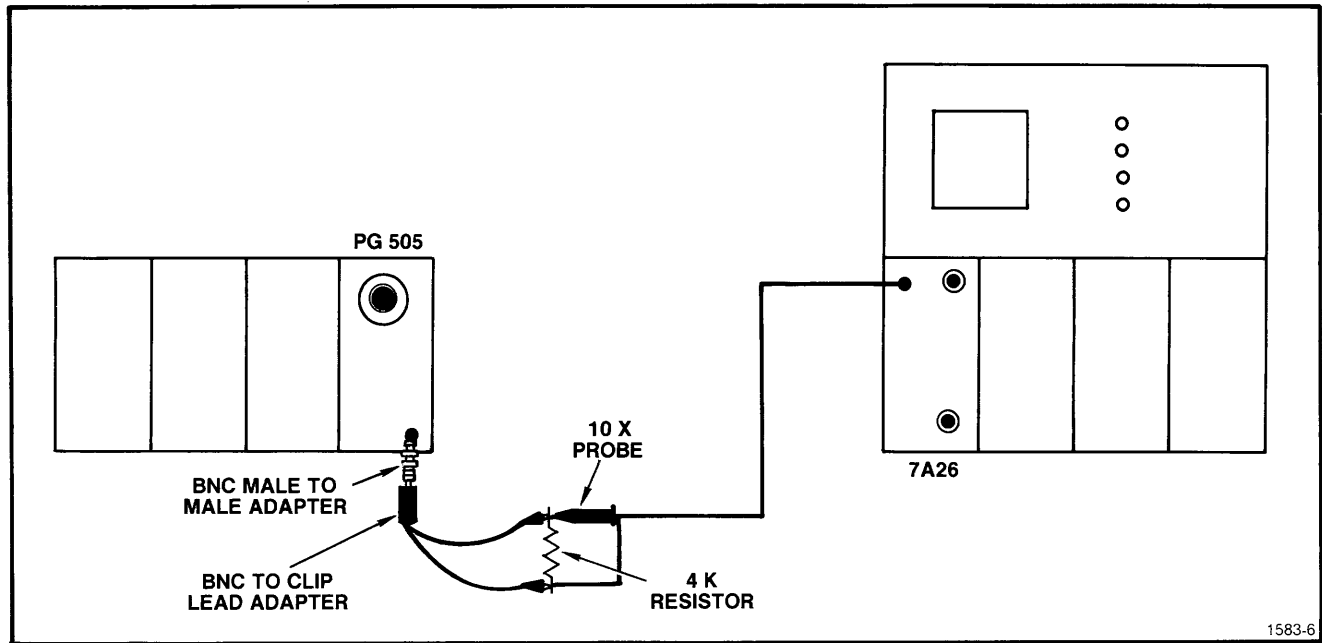

Fig. 4-1. Rise Time Check.
- Connect the equipment as shown in Fig. 4-1.
- c. Connect the equipment as shown in Fig. 4-1.
- b. Connect the equipment as shown in Fig. 4-1, but change to the $10 \text{ k}\Omega$ resistor instead of the $4 \text{ k}\Omega$ resistor and connect it from the TRIG OUT instead of from the OUTPUT of the PG 505.